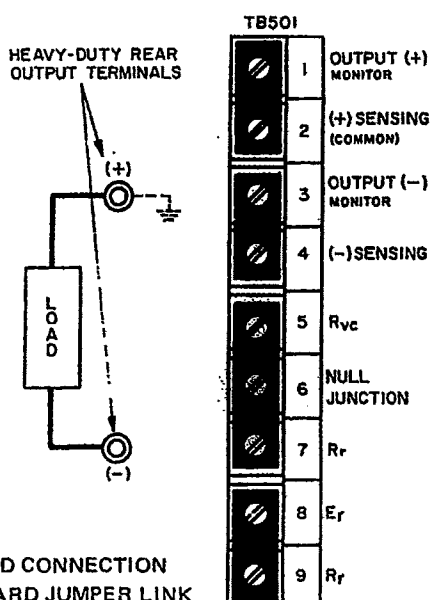
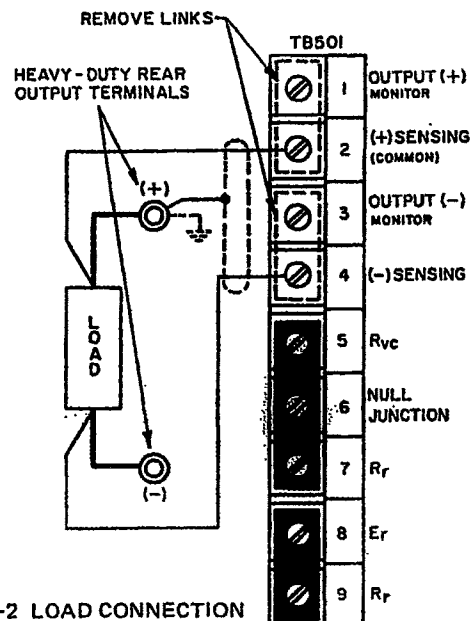

FIG. 3-1 LOAD CONNECTION AND STANDARD JUMPER LINK CONNECTIONS WITHOUT ERROR SENSING
FIG. 3-2 LOAD CONNECTION USING REMOTE ERROR SENSING
- 3-2 GENERAL. The Power Supply is shipped from the factory with five (5) removable jumper links in place at the rear barrier strip (TB501) as shown in FIG. 3-1. THESE LINKS MUST BE IN PLACE AND SECURED TIGHTLY for standard local operation. Loose terminal links or wires at the barrier strip will cause malfunction of the power supply.
- 3-3 LOAD CONNECTION The load may be connected in any of the two ways illustrated (FIG. 3-1,3-2). Load connecting wires should be as heavy as practicable, since load wire voltage drops will degrade regulation performance. Twisting of load wires will help to preserve the low output impedance of the power supply. To keep the DC voltage drop in the load connecting wires to a minimum, and to preserve the dynamic characteristics of the power supply (AC stability, output impedance and recovery time), load wires and error sensing leads should be as short and as large in diameter as practicable. Both lead pairs should preferably be tightly twisted. For minimum ripple and noise pick-up, the error sensing leads must be shielded. The shield, as well as one side of the output (preferably the positive), should be returned to the common ground point (Refer to FIG. 3-2)
- 3-5 Specified regulation performance DIRECTLY AT THE LOAD requires the use of remote error sensing. A twisted, shielded pair of wires from the sensing terminals directly to the load will compensate for load wire voltage drops up to 0.5 volt per wire (Refer to FIG. 3-2). Observe polarities: The positive sensing wire [from terminal (2)] goes to the positive load wire.